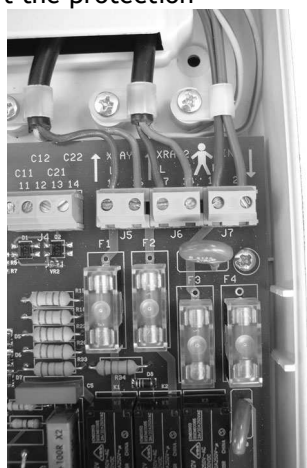

Fig. 26
3. Determine the fuse to be replaced (Fig. 26)